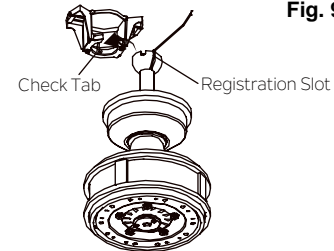

Fig. 10
Step 6. Now lift the motor body into position and place the hanger ball into the hanger bracket. Rotate until the “Check Tab” has dropped into the “Registration Slot” and seats firmly. (Fig.10) The entire motor body should not rotate if this is done correctly.